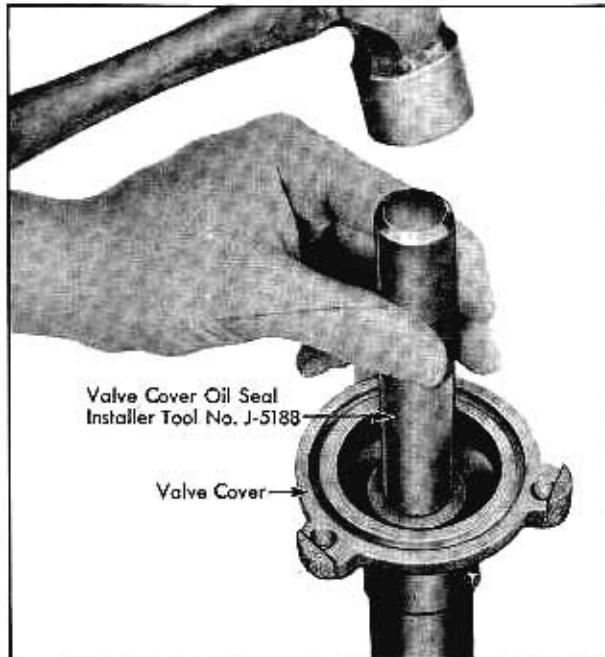

Fig. 7-33 Installing Seal in Cover
9. Install a new inner seal in valve body cover using Seal Installer, Tool No. J-5188. Fig. 7-33.